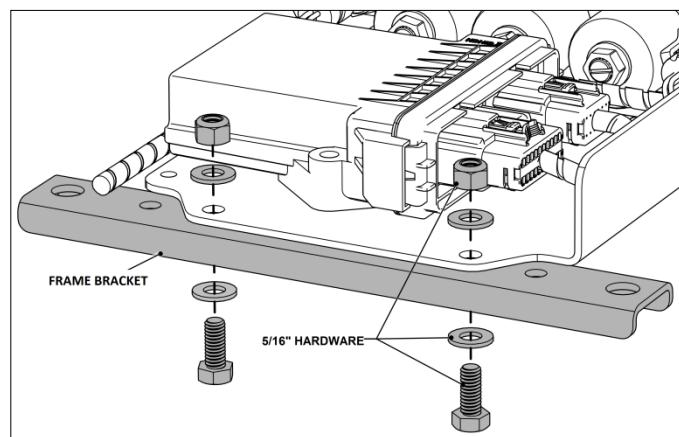

Figure 1B
- Fasten the control board to the two frame brackets using the supplied 5/16" cap screws, nuts and washers. Torque the hardware to 17 ft-lbs [23 N.m]. Refer to Figure 1B.
! *Mount the control board as high as possible on the frame rail and in the orientation shown in Figure 1B.*